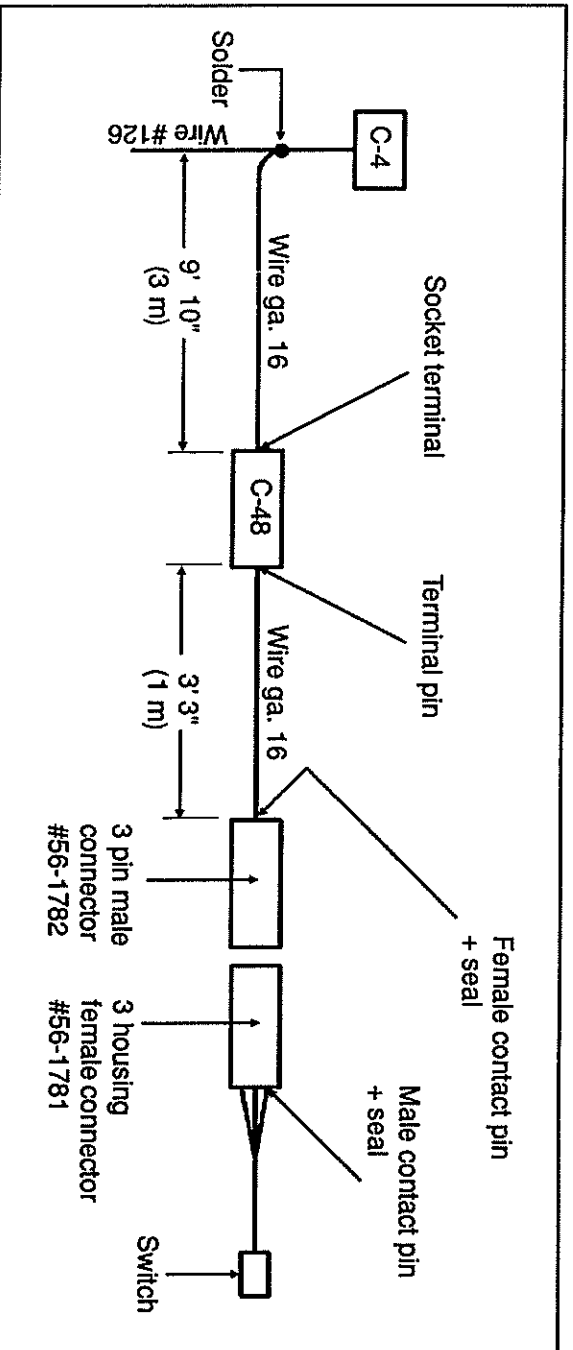

Figure 5 - Overall view of Installation
21. Insert the female contact pin of 3'3" (1 m) long wire #06-3137 in male connector #56-1782 (see fig. 5).